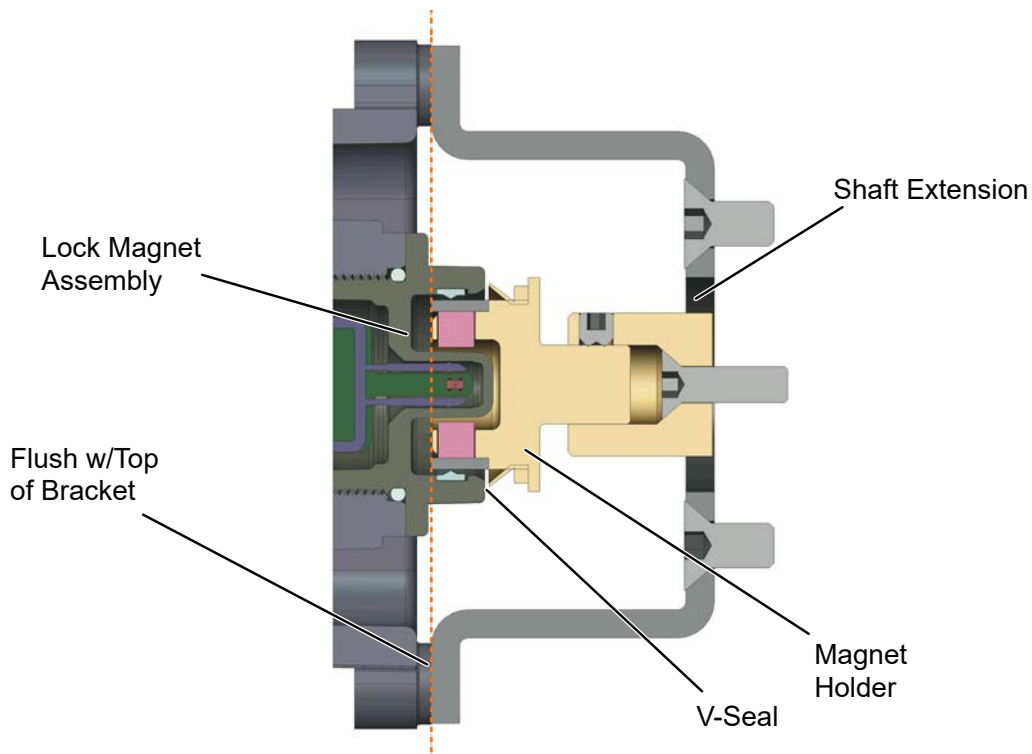

Figure 10 - Camflex II Rotary control valve with Mounting Bracket (Side View)
6. Align the end of the magnet holder flush with the end of the mounting bracket (Red Dotted line in the Figure10 on page 29). Secure the magnet holder with two M6 set screws using 6mm Hex Key.